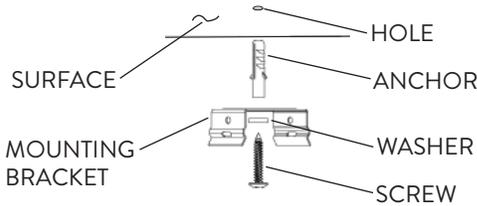

FIG. 5
- 1 The Surface Mount Kit is provided for both FVTB models. Mount the Brackets, Screws, and plastic twist resistant Anchors to Mounting Surface (Fig. 5). The Mounting Holes shall be off-set to the Junction Box so the fixture can be mounted next to the Junction Box. Align the Mounting Holes to the approximate Mounting Bracket locations on the FVTB fixture.